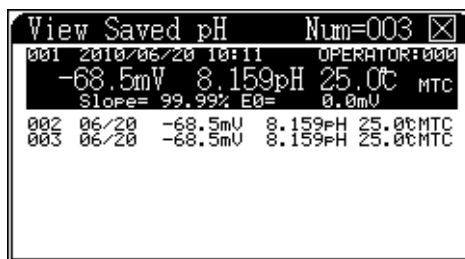

Figure 24 View saved data menu
- 2 For saved data, use the scroll keys to select the data to view. Figure 24 shows example saved data: